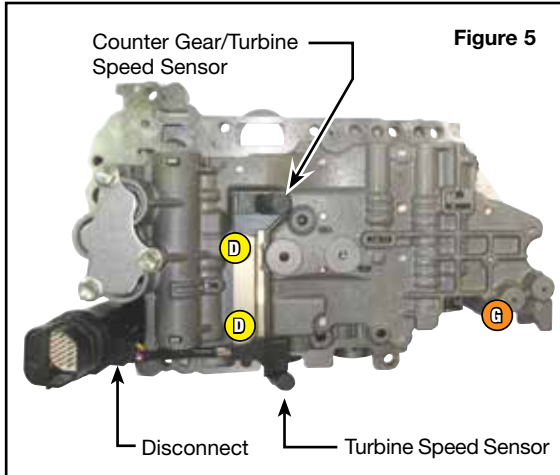

Figure 5
- Disconnect and remove counter gear/turbine speed sensor and valve body bolts (Figure 5).
- Connect and reinstall counter gear/turbine speed sensor and valve body bolts (Figure 5).